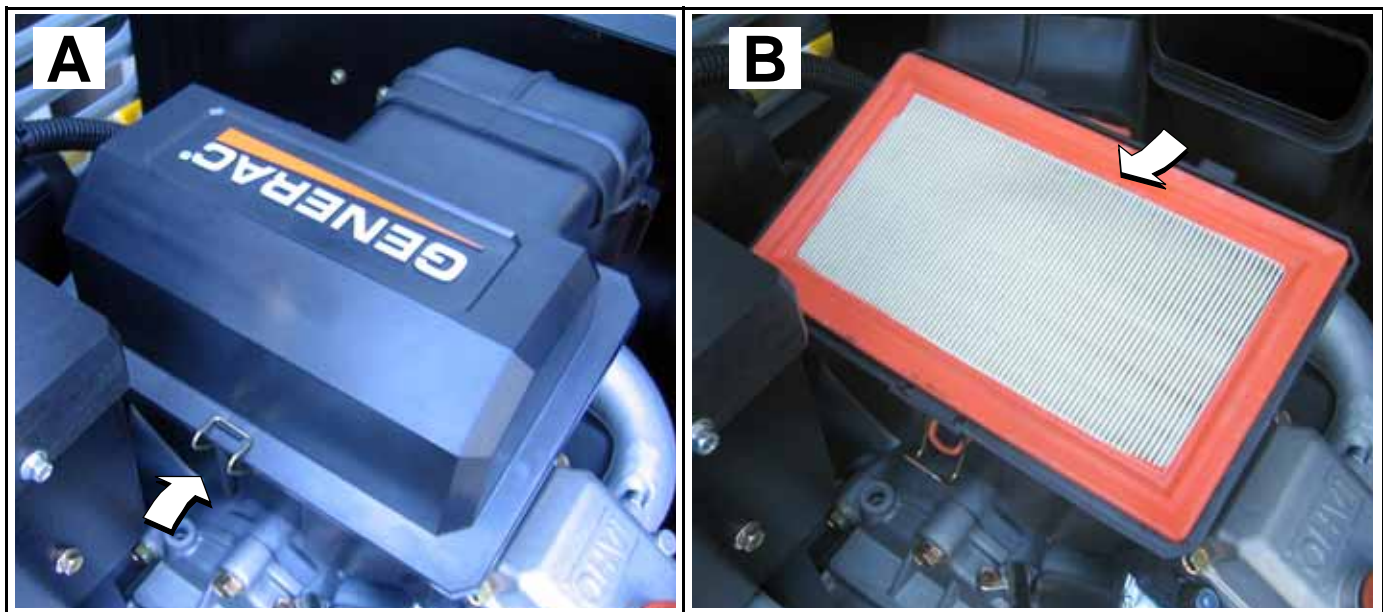

Figure 4-10. Replace Engine Air Filter
2. Disengage cover clip and remove air cleaner cover. See A of Figure 4-10.
5. Install **new** air filter. See B of Figure 4-10.